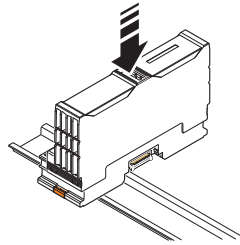

Figure 5-6 Snapping the bus coupler on
- Place the bus coupler **vertically** on the DIN rail until it snaps into place with a click (Figure 5-6).